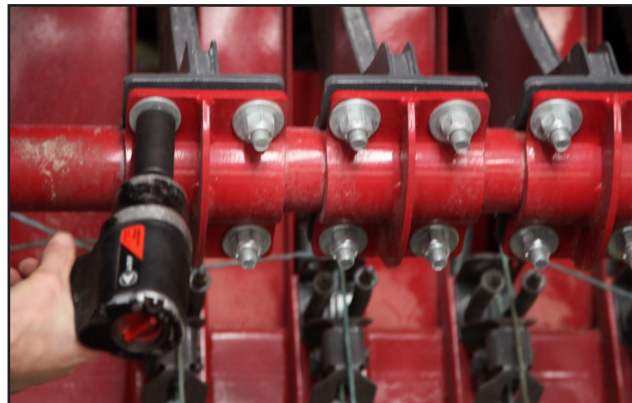
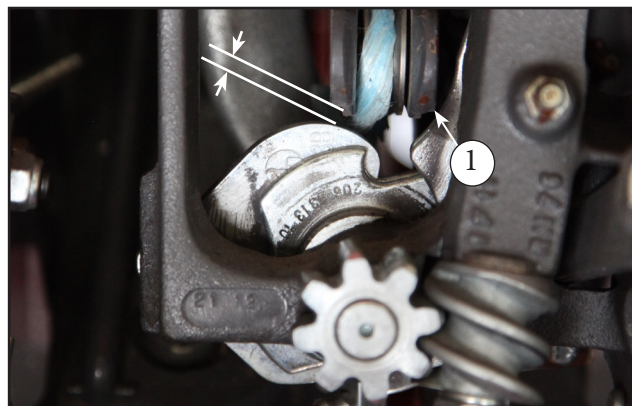

FIG. 101
FIG. 102
FIG. 101: If the distance is not correct on only one needle, change the position of the needle using the adjustment bolts. Raise the needle by loosening the bottom bolts and tightening the top bolts. Lower the needle by loosening the top bolts and tightening the bottom bolts. Tighten the nuts on the attachment bolts. If the alignment cannot be made, check to make sure the needle is not bent or damaged. Lay a straight edge across several of the needles and compare the curves.
FIG. 102: Have another person manually operate the knotter at a slow speed until the tip of the needle is even with the knotter frame. The needle roller must align with the tucker arm roller. The needles should rub against the knotter frame at point (1). The needle should clear the twine disc cleaner by 1 to 3 mm (.039 to .118 in) and must touch the knotter frame or billhook gear lightly. Connect a spring scale to the needle and pull the needle to the side. The needle must lose contact with the knotter frame when the spring scale indicates 1.4 to 4.5 kg (3 to 10 lbs). If the adjustment is not correct, the needle must be moved sideways. To move the needle sideways, loosen the bolts on the needle clamp (Fig 101) and move sideways as required.